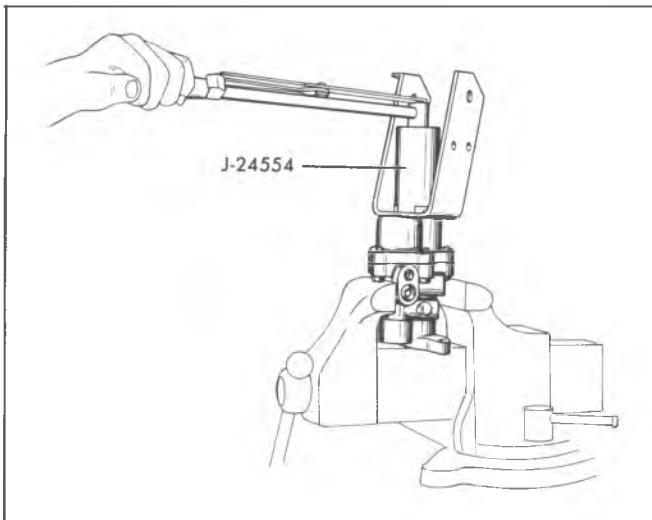

Fig. 5-6E--Installing Mounting Bracket Nut
14. Install the **NEW** bracket nut with the staking groove outward on the threaded hub of the booster. Using Tool J-24554 and a torque wrench (fig. 5-6E), tighten the nut to 95-120 ft. lbs.